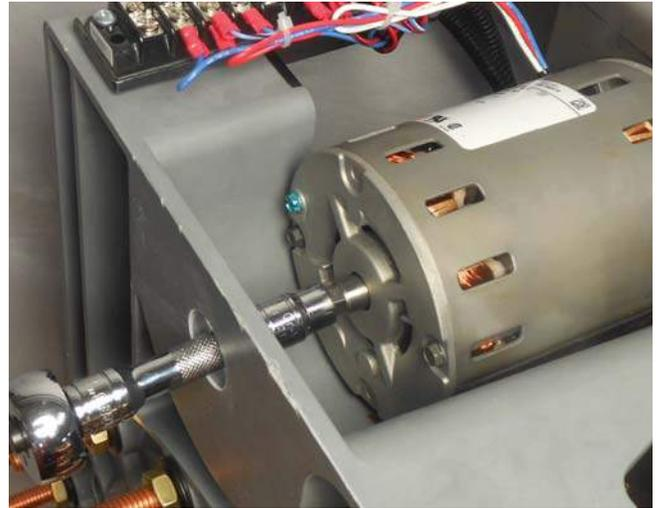

**Figure 85. Positioning the actuator finger and tightening the bolts**
19. Install the actuator finger and bolts. Tighten the bolts using a 7/16" socket to a torque of 65–75 in-lbs (7.3–8.5 Nm). It may be necessary to reposition the movable contact panel slightly if the bolt holes in the finger and Geneva gear do not quite line up. See Figure 85.